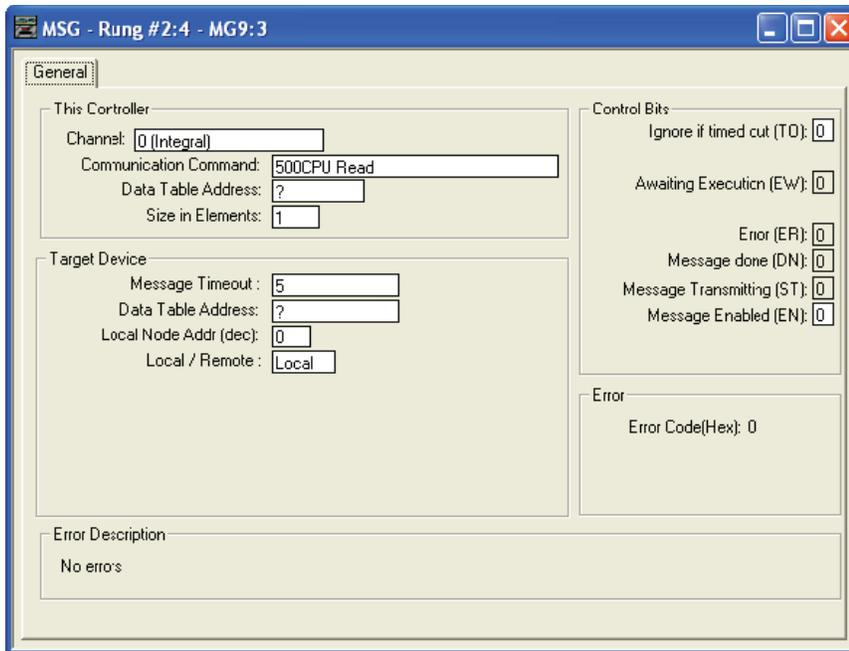

Figure 4.3 Default Message Instruction Setup Screen
1. Start to configure the Message Instruction by double clicking on the Setup Screen text that is inside the Message Instruction. The window in figure 4.3 will open. Note that this is the default window and its appearance will change considerably as you progress through these steps.